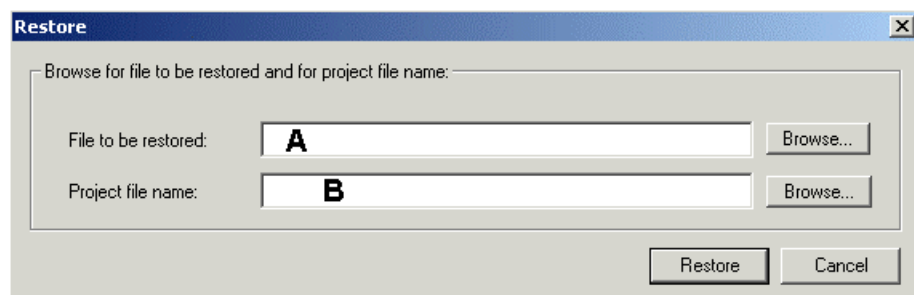

Fig. 7 Select a name and location for your restored file
6. In the 'File to be restored' field, enter or browse for the backup file (file extension: .bak). (See "A", Fig. 7.)
7. In the 'Project file name' field, enter or browse for the drive where your project will be restored. (See "B", Fig. 7.)